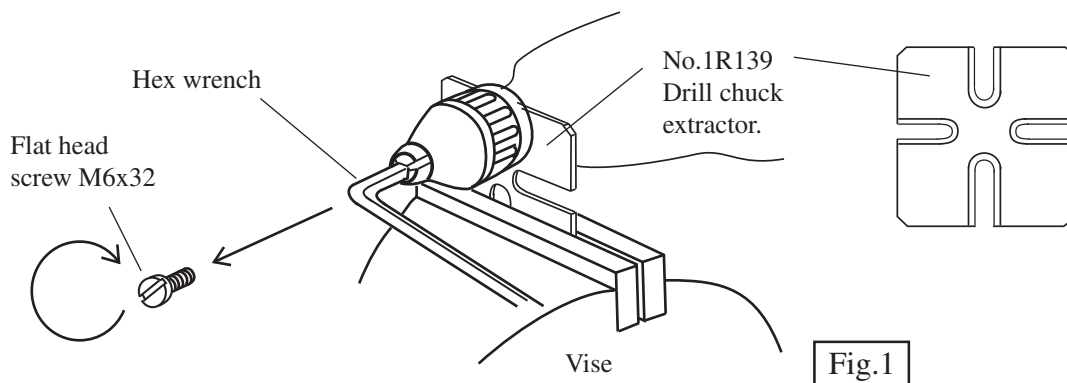

Fig.1
1. Take off flat head screw M6x32 by turning it clockwise. See Fig.1.
2. Hold the flat part of spindle with spanner 14 (No.781007-2) or drill chuck extractor No.1R139. See Fig.1.